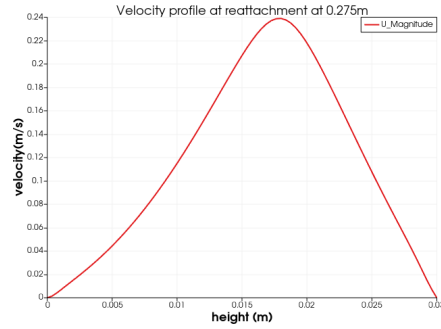

Figure 8: velocity @ A\*
- **In Fig 8** which is @  $A^*$  (0.275 m) due to no slip boundary condition velocity at the boundary is 0 m/s and at approx 0.019 m it is highest as the flow passes at high velocity through there.